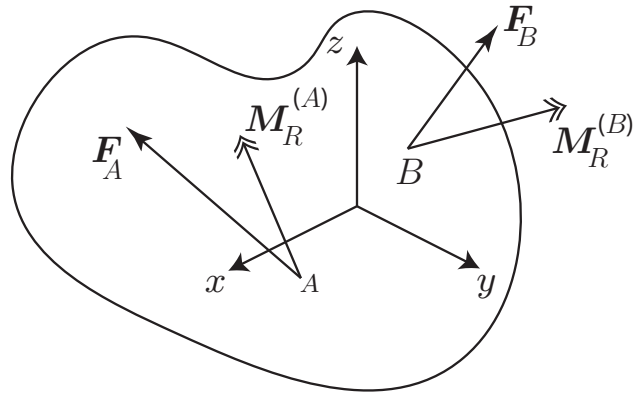

Figure 8: Problem 8.
8. The body shown in Fig. 8 is subjected to two force systems. The first is characterized